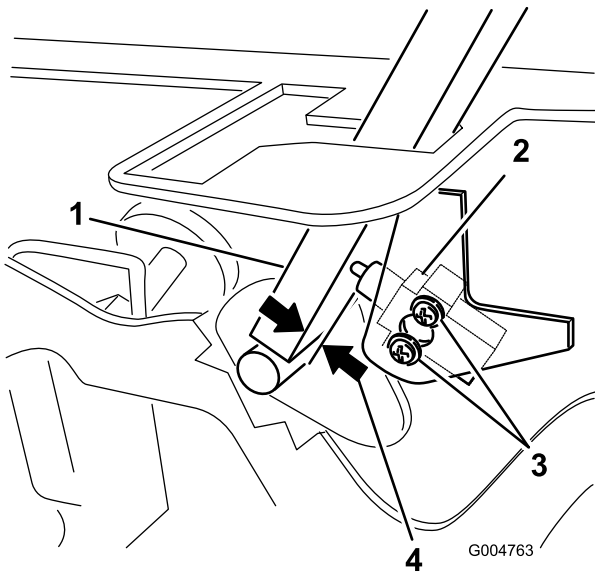

Figure 48
3. Loosen the 2 screws securing the interlock switch (Figure 48).
4. Holding the control lever against the frame, move the switch toward the lever until the distance between lever and switch body is 0.015 to 0.045 inch (0.4 to 1 mm) (Figure 48).